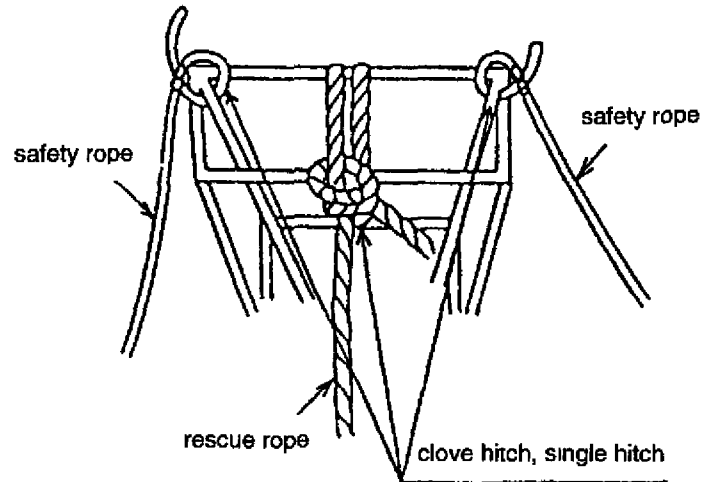

Fig. 7-28
- 2) Pass this rescue rope through the carabiners and standing block at the top of the ladder (first through the reinforcing carabiners, then through the pulley block), and tie to the top rung of the ladder in the center (put through the block fixture) using a clove hitch and single hitch. (Fig. 7-28)